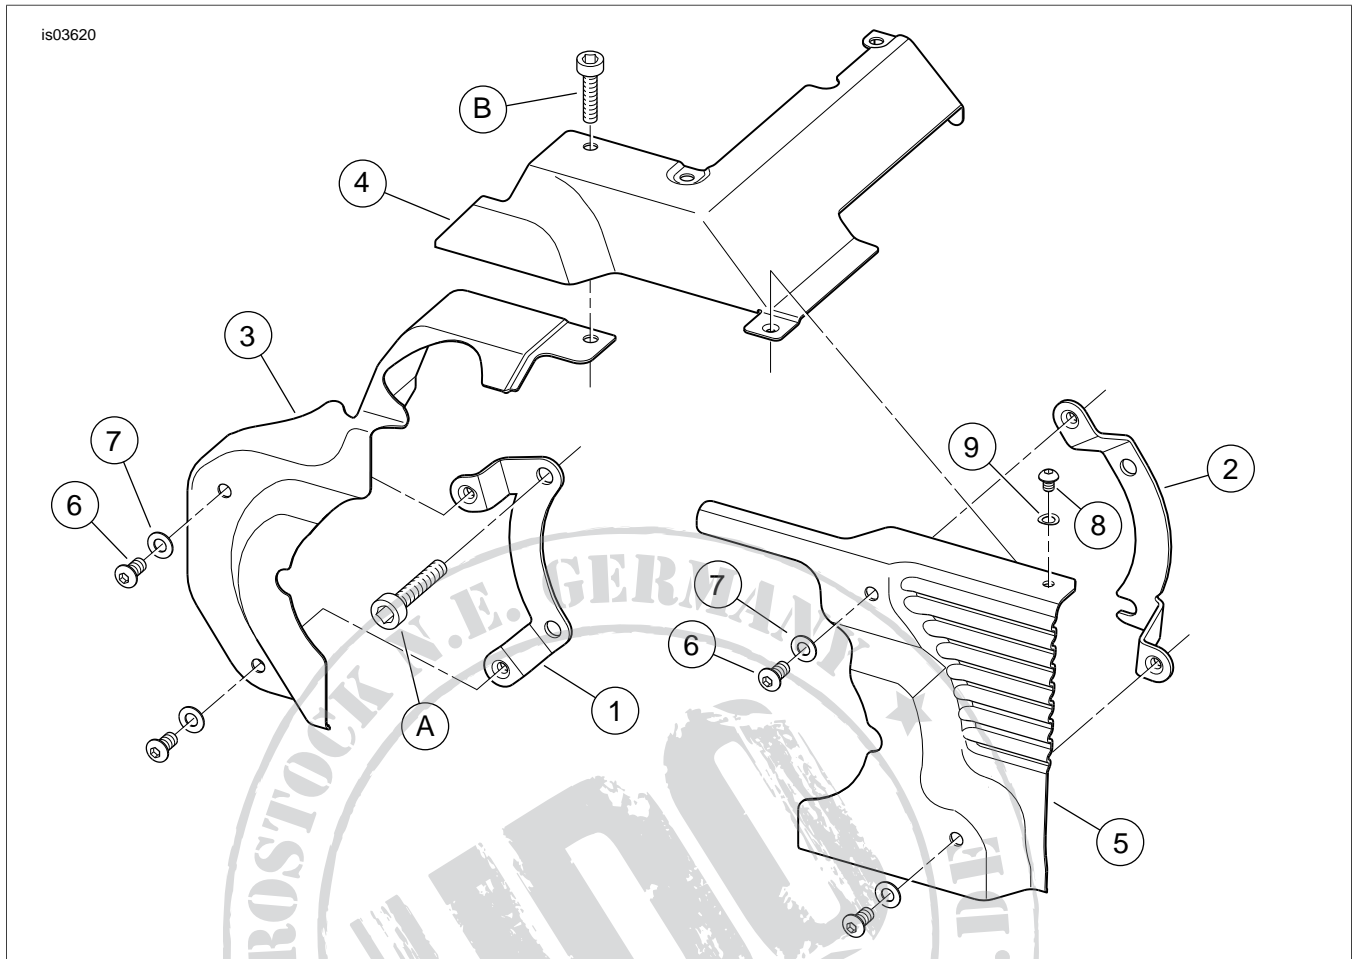

Figure 2. Service Parts: Interface Covers
See Figure 2 and Table 1.
4. See Figure 2. Obtain the rear interface mounting bracket (1) from the kit.
7. See Figure 2. Obtain the front interface mounting bracket (2) from the kit.
11. See Figure 2. Obtain the right rear interface cover (3), two chrome 1/4-20 screws (6) and two flat washers (7) from the kit.
14. Obtain the chrome top interface cover (4) from the kit.